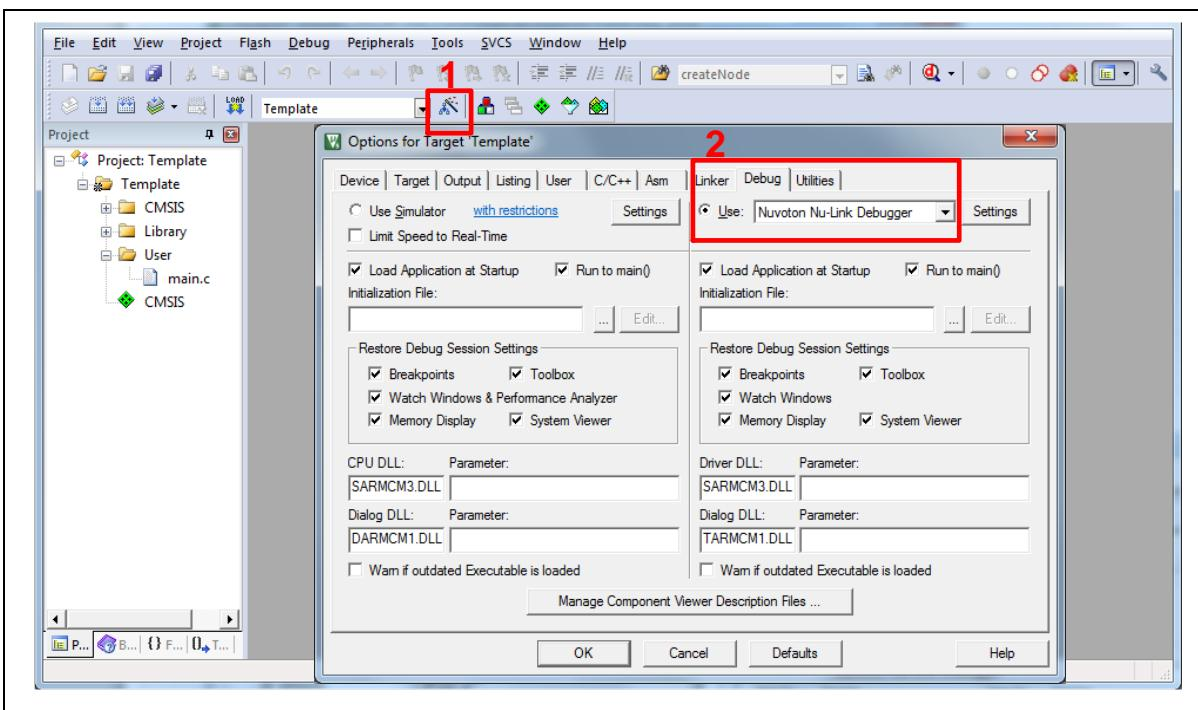
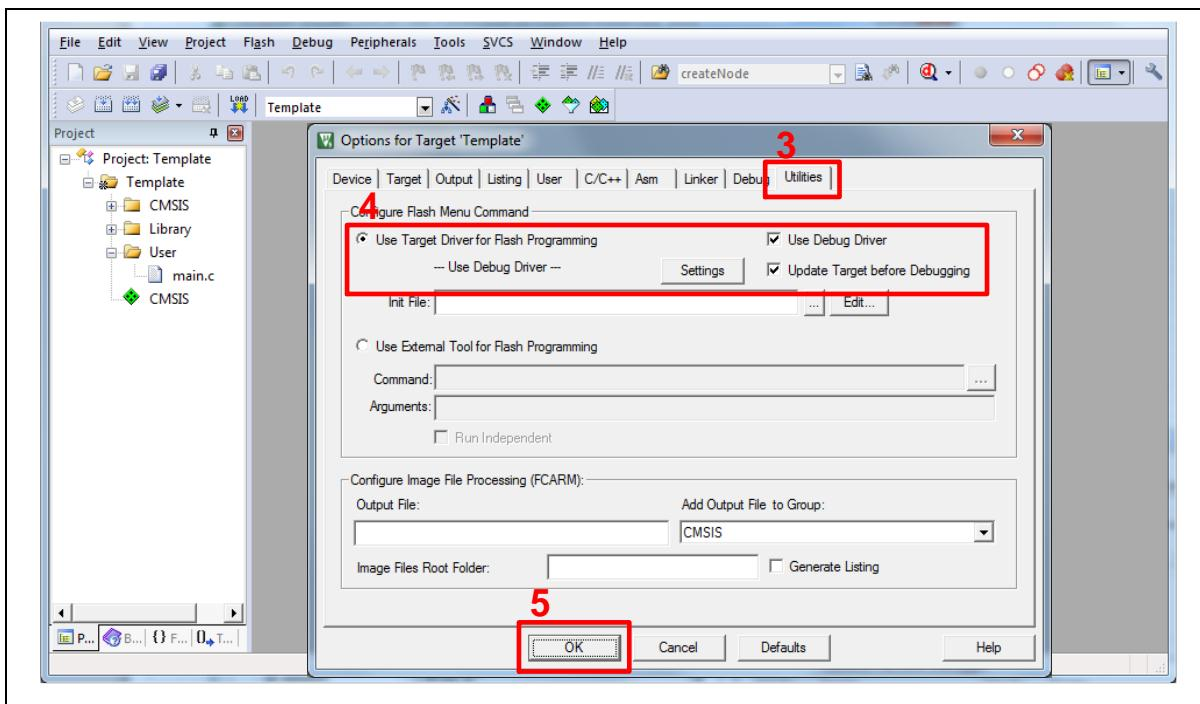

Figure 5-10 Debugger Setting in Options Window
Figure 5-11 Programming Setting in Options Window
2. Make sure the debugger is “Nuvoton Nu-Link Debugger” as shown in Figure 5-10 and Figure 5-11.
Note: If the dropdown menu in Figure 5-10 does not contain “Nuvoton Nu-Link Debugger” item, please rework section 5.2.